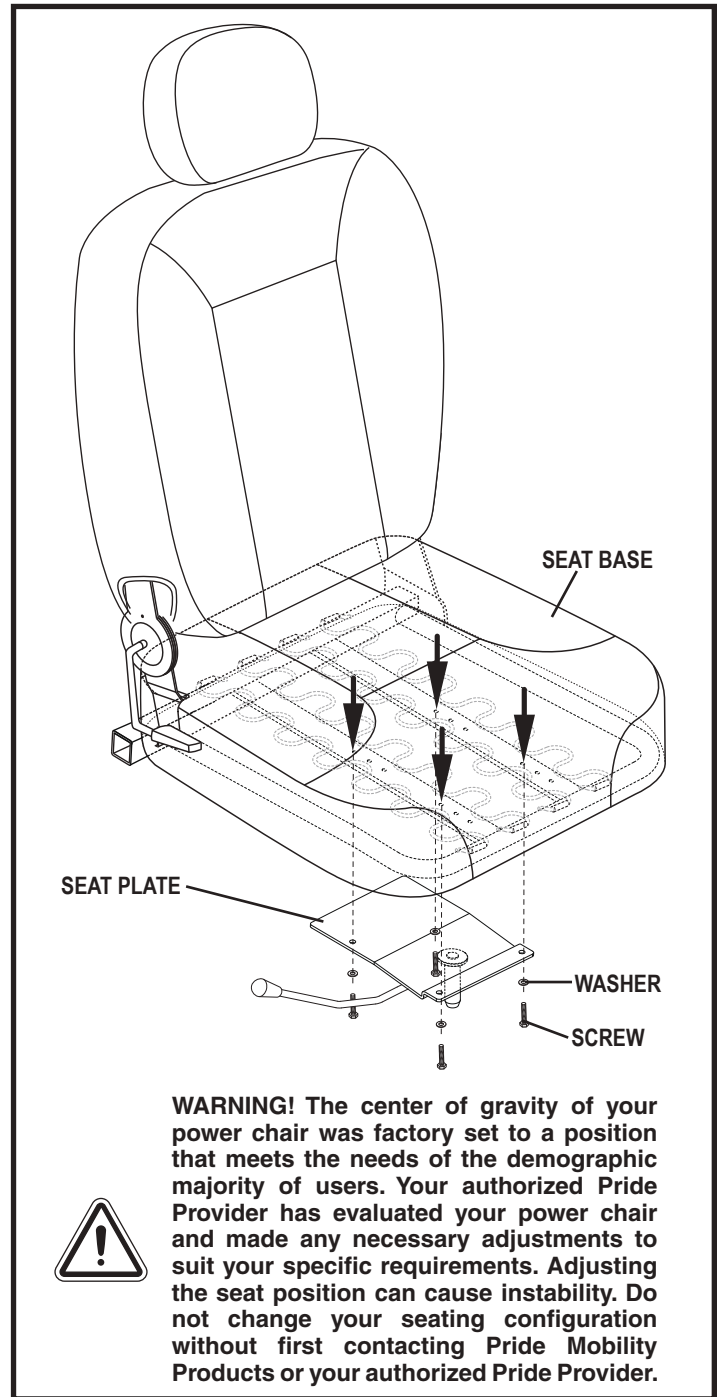

Figure 12. Seat Position Adjustment
16. Remove the screws and washers from the bottom of the seat plate. **See figure 12.**